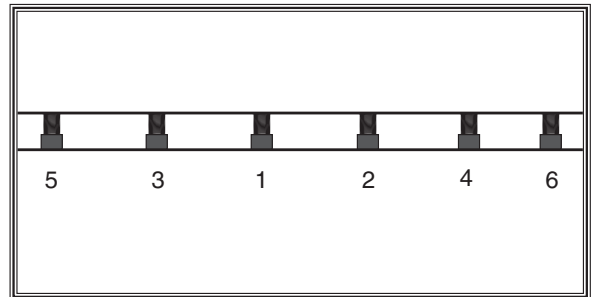

Figure 20. Gib bolt tightening sequence.
- Rotate the cutterhead to the first knife you started with. Slightly tighten all the gib bolts by following the tightening sequence shown in **Figure 20**. Repeat this step on the rest of the knives.